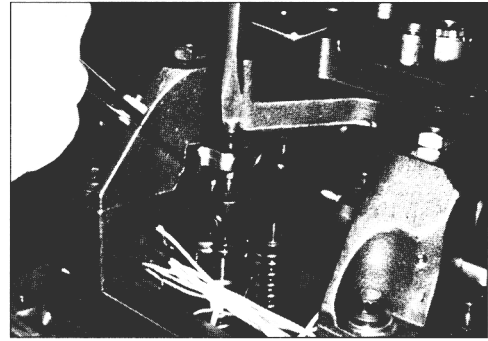

FIG. 23
- Follow the same procedure and set the same clearance between the slave piston leveling screw and the rocker arm adjusting screw (see Fig. 23).